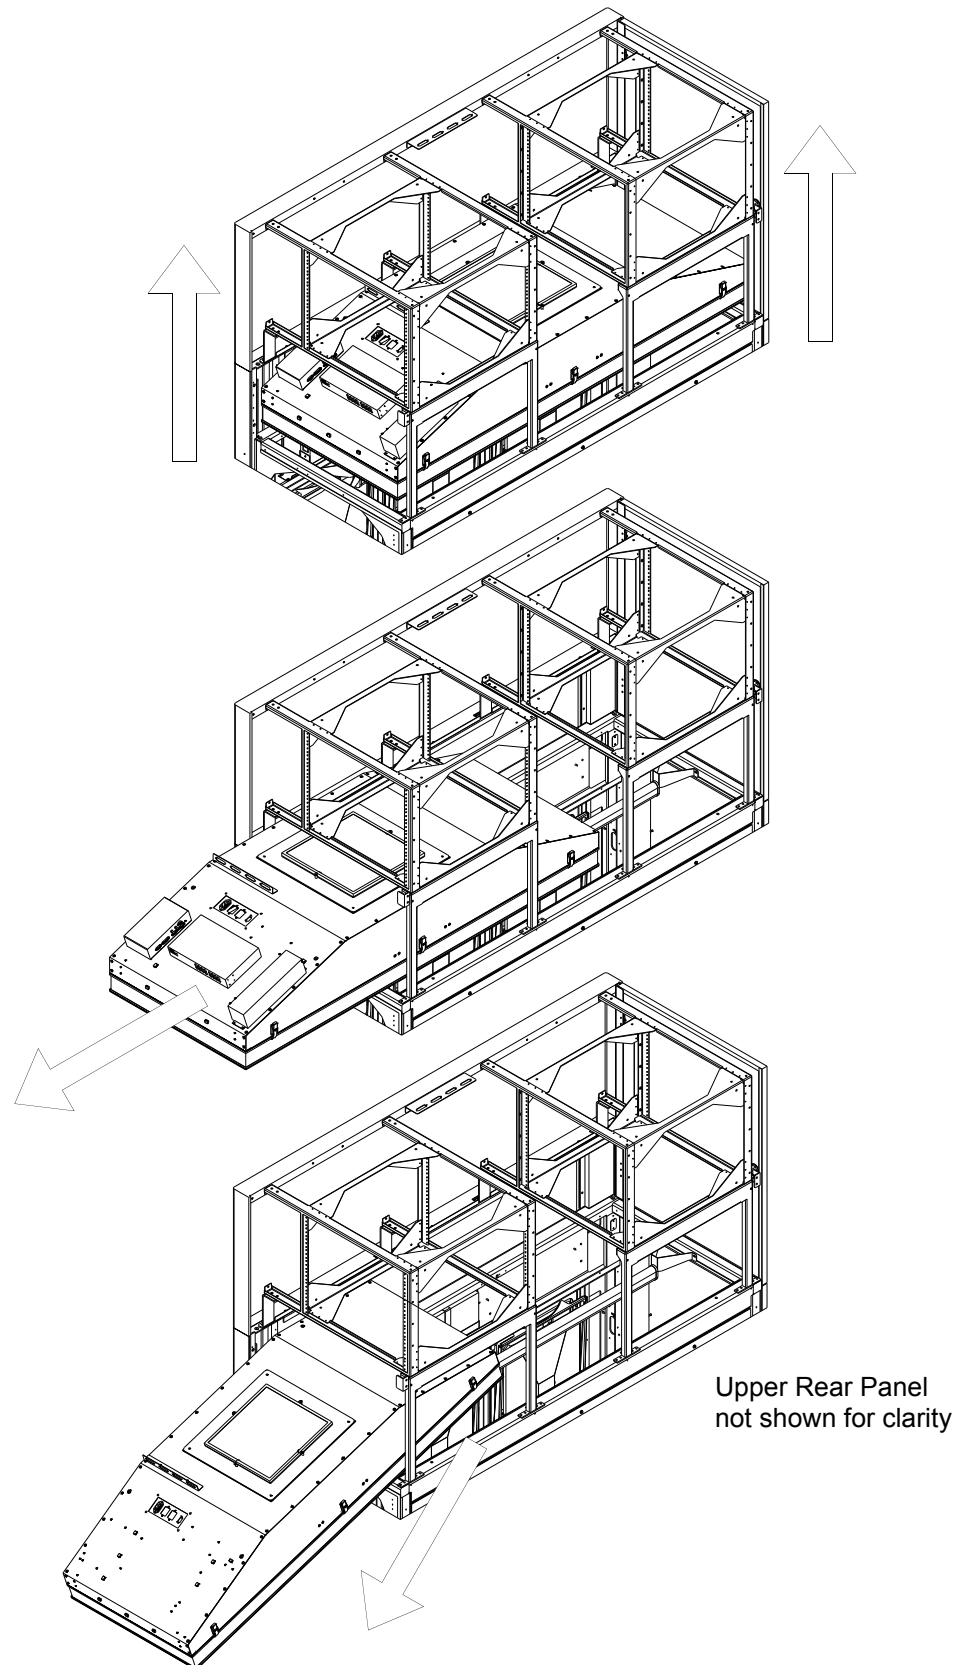

Figure 8-8: Remove the FFU
14. Remove the FFU from the top of the Jet system. Be careful to minimize the contact between the FFU and the upper electronics rack, if equipped. Remove equipment from the lowest position of the Service Side Rack, if required. See Figure 8-8.